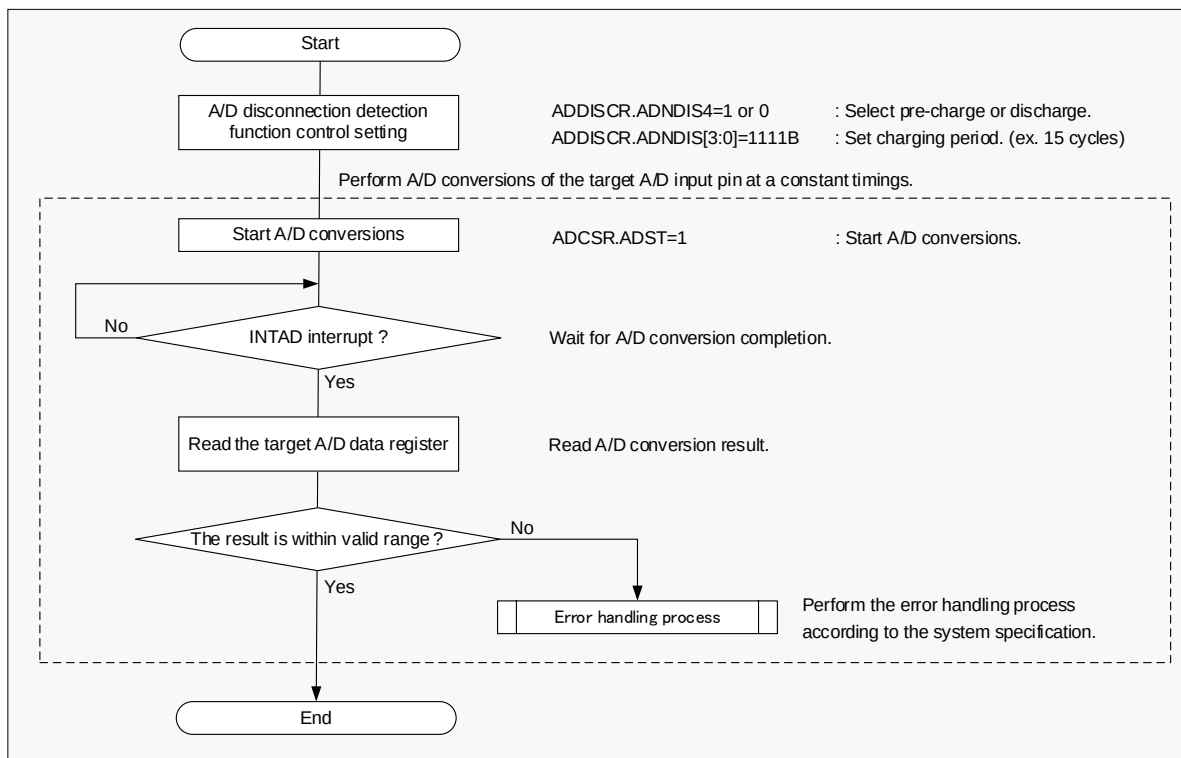

Figure 13-3 Flow Chart of A/D Test Function (Disconnection detection function)
Figure 13-3 is the flow chart of the A/D test function (Disconnection detection function).
P.55	Revised “Figure 13-3 Flow Chart of A/D Test Function (Disconnection detection function)”.